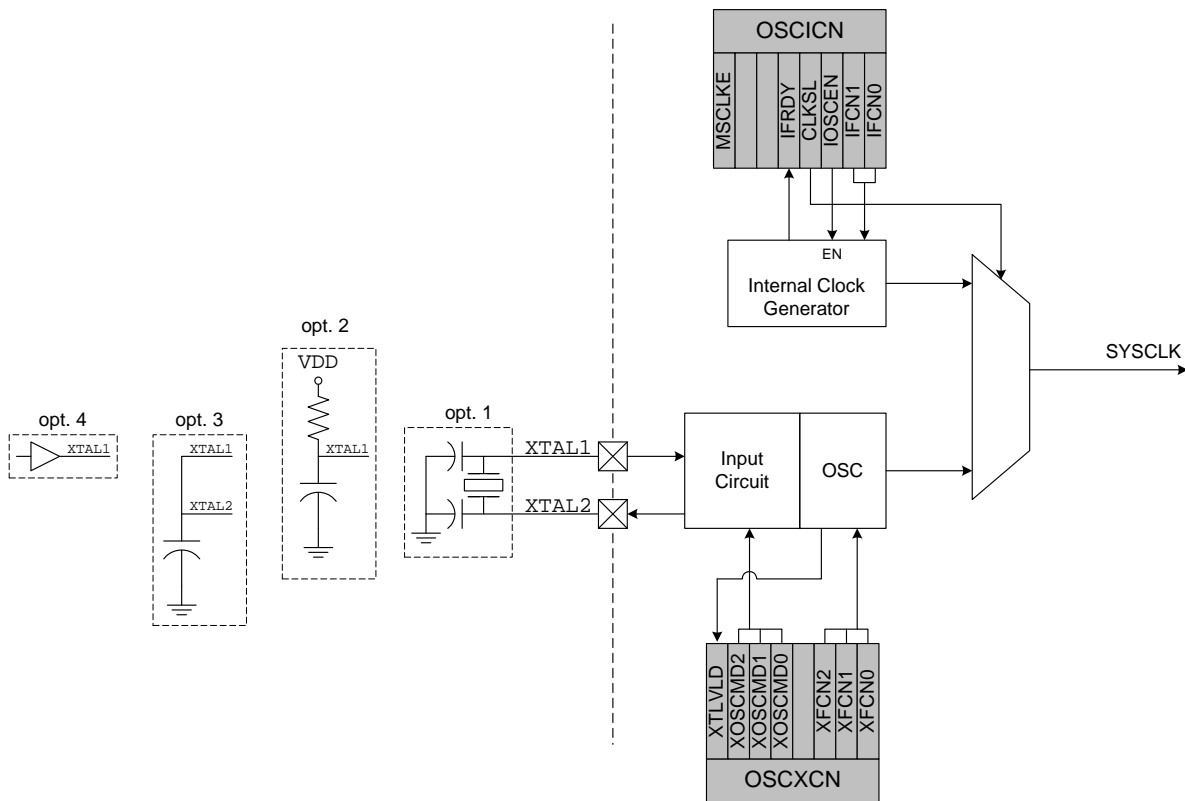

Figure 13.1. Oscillator Diagram
Both oscillators are disabled when the  $\overline{RST}$  pin is held low. The MCU can run from the internal oscillator permanently, or it can switch to the external oscillator if desired using CLKSL bit in the OSCICN Register. The external oscillator requires an external resonator, crystal, capacitor, or RC network connected to the XTAL1/XTAL2 pins (see Figure 13.1). The oscillator circuit must be configured for one of these sources in the OSCXCN register. An external CMOS clock can also provide the system clock by driving the XTAL1 pin. The XTAL1 and XTAL2 pins are NOT 5 V tolerant.
**CRYSTAL MODE** (Circuit from Figure 13.1, Option 1; XOSCND = 11x)
**RC MODE** (Circuit from Figure 13.1, Option 2; XOSCND = 10x)
**C MODE** (Circuit from Figure 13.1, Option 3; XOSCND = 10x)
If a crystal were used to generate the system clock for the MCU, the circuit would be as shown in Figure 13.1, Option 1. For an ECS-110.5-20-4 crystal, the resonate frequency is 11.0592 MHz, the intrinsic capacitance is 7 pF, and the ESR is 60 W. The compensation capacitors should be 33 pF each, and the PWB parasitic capacitance is estimated to be 2 pF. The appropriate External Oscillator Frequency Control value (XFCN) from the Crystal column in the table in SFR Definition 13.2 (OSCXCN Register) should be 111b.
If an external RC network were used to generate the system clock for the MCU, the circuit would be as shown in Figure 13.1, Option 2. The capacitor must be no greater than 100 pF, but using a very small capacitor will increase the frequency drift due to the PWB parasitic capacitance. To determine the required External Oscillator Frequency Control value (XFCN) in the OSCXCN Register, first select the RC network value to produce the desired frequency of oscillation. If the frequency desired is 100 kHz, let R = 246 kW and C = 50 pF:
If an external capacitor were used to generate the system clock for the MCU, the circuit would be as shown in Figure 13.1, Option 3. The capacitor must be no greater than 100 pF, but using a very small capacitor will increase the frequency drift due to the PWB parasitic capacitance. To determine the required External Oscillator Frequency Control value (XFCN) in the OSCXCN Register, select the capacitor to be used and find the frequency of oscillation from the equations below. Assume  $V_{DD} = 3.0 \text{ V}$  and  $C = 50 \text{ pF}$ :